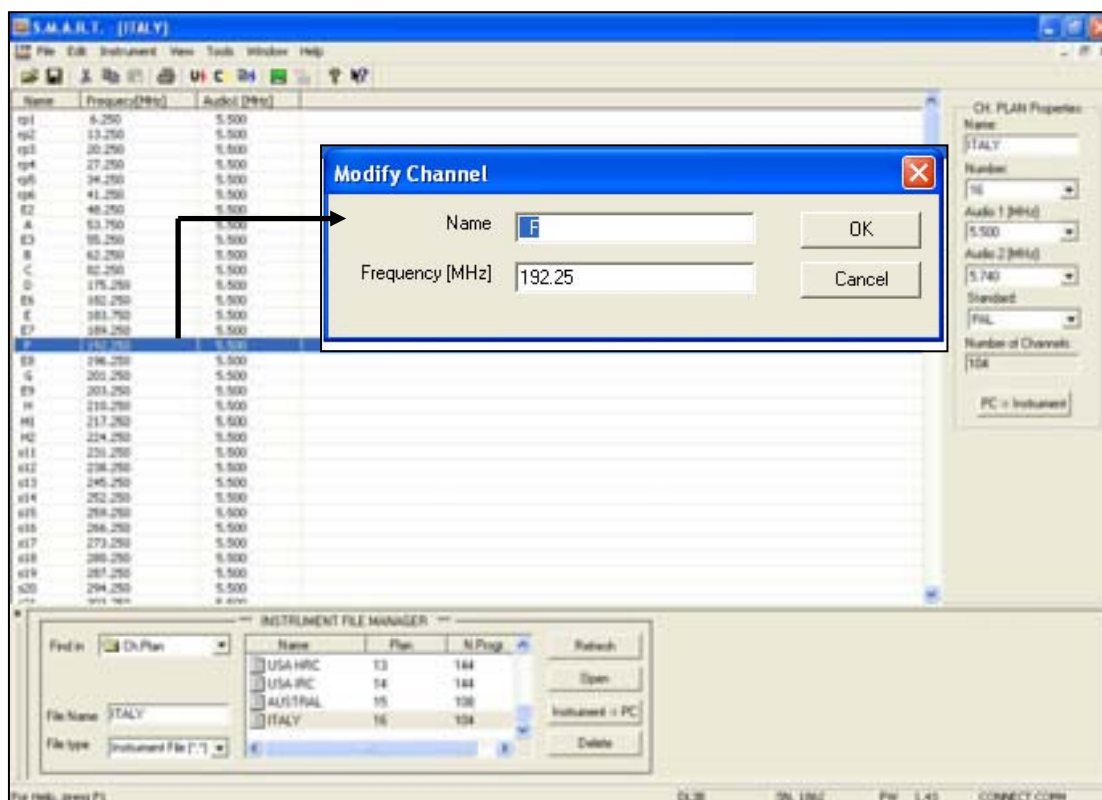

Figure 9.1
<ol style="list-style-type: none"> 1. Start up the SMART program 2. Click on “Help” in the instrument bar 3. Select “Licence Information” - See Fig. 9.1 4. Insert the licence number in the appropriate window 5. Press Add to include the licence number 6. Press “Ok” to close the “Licence Information” window
- c) Select “Licence Information” – See Fig. 9.1